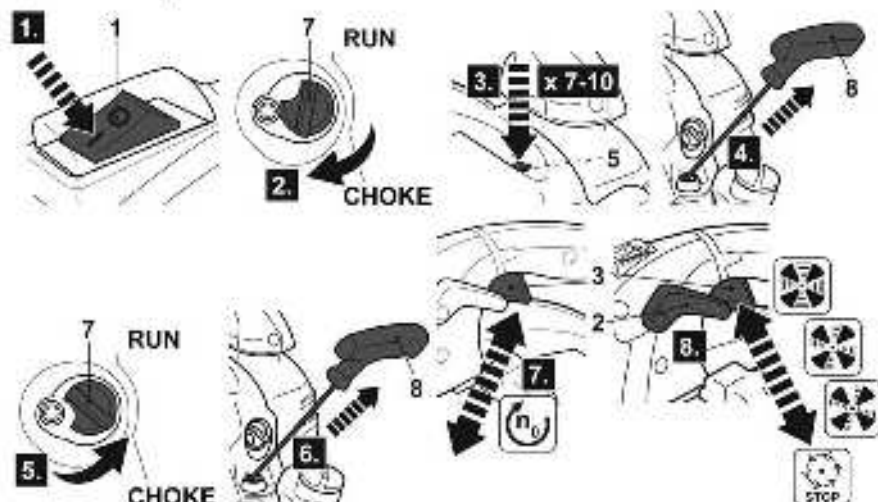

Fig. 16
- > Set the ignition switch (1) to the ON position I (Fig. 16, step 1).
- > Turn the choke (7) clockwise to the position **CHOKE** (Fig. 16, step 2).
- > Press the primer (5) 7 to 10 times (Fig. 16, step 3).
- > Hold the product securely to the ground and then pull the recoil starter handle (8) lightly until you feel resistance then pull it rapidly until you hear the first firing occur (Fig. 16, step 4).
- > Turn the choke (7) anticlockwise to the position **RUN** (Fig. 16, step 5).
- > Hold the product securely to the ground and then pull the recoil starter handle (8) lightly until you feel resistance then pull it rapidly until the engine starts (Fig. 16, step 6).
- > Squeeze and release the throttle trigger (3) to warm up the engine (Fig. 16, step 7).
- > Have firm grip on the handles. For vacuuming operation, grip the product with both hands, the left hand on the auxiliary handle (13) and the right hand on the main handle (4); for blowing operation, grip the product with the right hand on the main handle (4).
- > Squeeze the throttle trigger (3) to start the operation (Fig. 16, step 8). The speed is controlled by how far the throttle trigger is depressed.
- > Use the lock-on lever (2) to lock the throttle trigger (3) in position for continuous operation if required.